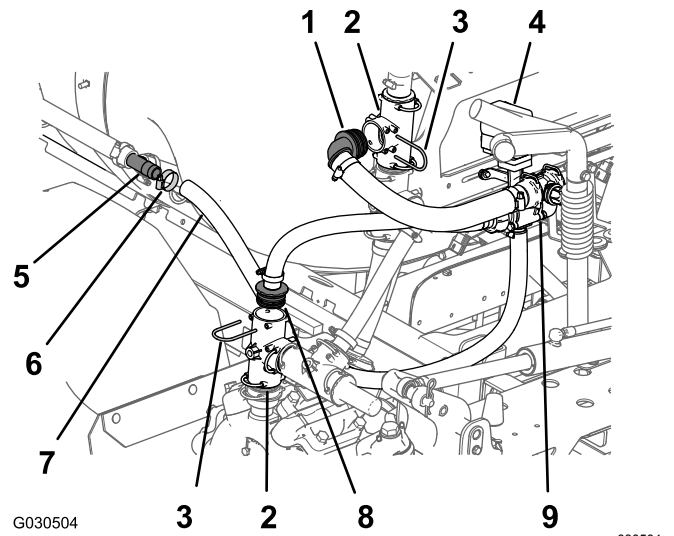

Figure 66
2. At the left side of the sprayer tank (adjacent to the rear fender), remove the hose clamp and hose (1 inch inside diameter) at the barbed T-fitting of the rear most agitation nozzle (Figure 66).
3. At the outlet port for the sprayer pump, remove the retainer and straight-hub fitting from the vertically mounted T-fitting as shown in Figure 66.
4. At the left side of the manifold bracket, remove the retainer and 90° hub fitting from the upper, vertically mounted T-fitting as shown in Figure 66.